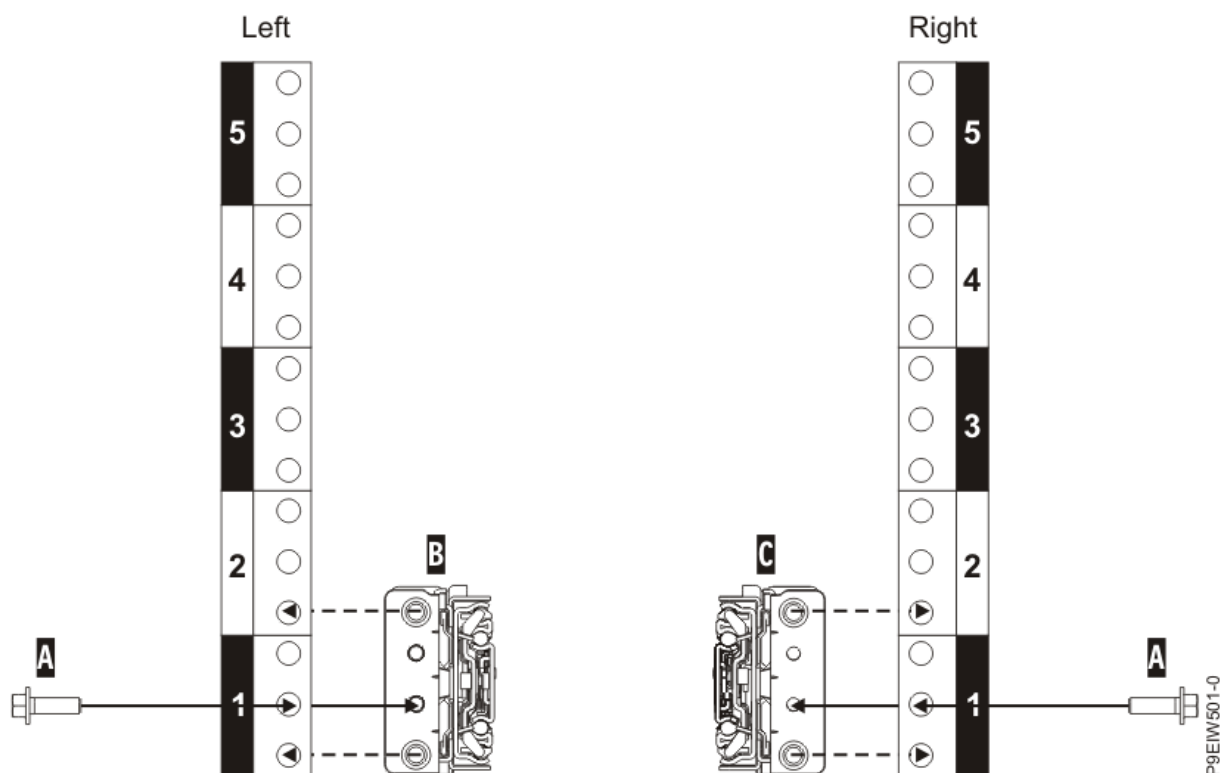

Figure 5. Attaching the slide rails at the rear of the rack
10. Attach the left slide rail (B) and right slide rail (C) with a M5x16mm screw (A) as shown in Figure 5 on page 6. Insert and tighten each screw into the threaded slide flange hole, located in the middle hole of the lowest EIA rack unit.